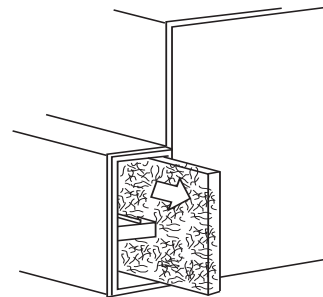
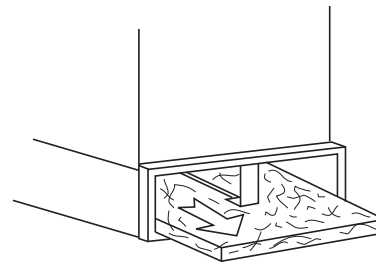

Fig. 21 – Removal of Filter from Side Blower Cabinet A00227
Fig. 22 – Removal of Filter from Bottom Blower Cabinet A00228
- b. Slide air filter out of furnace. Keep dirty side up (if dirty) to avoid spilling dirt (see Fig. 21 and Fig. 22).